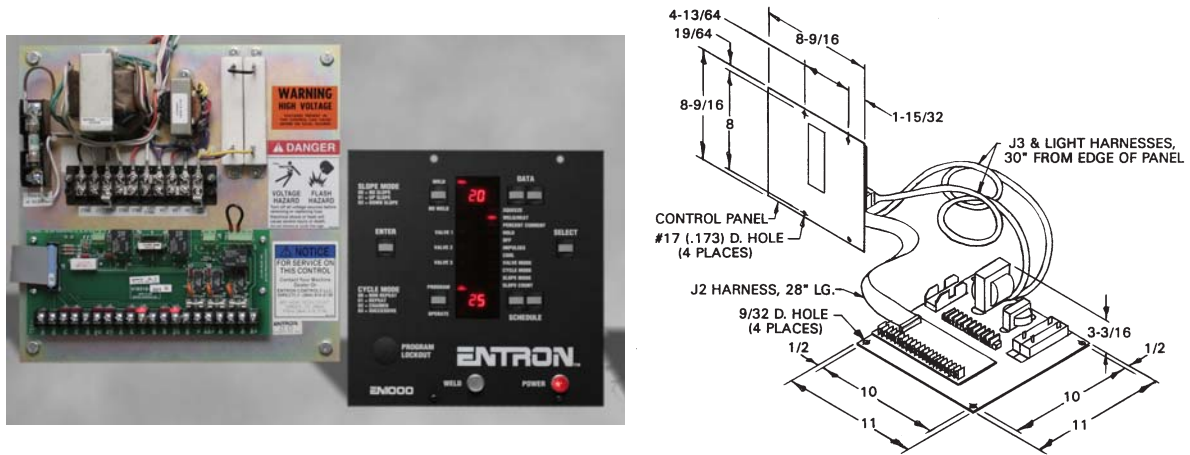

Figure 3-10. *Installation and mounting for 11x11 Flat Plate*
EN1000 and EN1001 Controls are available in Flat Plate (FP) and Integrated Modular Unit (IMU) component forms. Installation and mounting diagrams for these controls are shown in Figures 3-10, 3-11, 3-12, and 3-13.